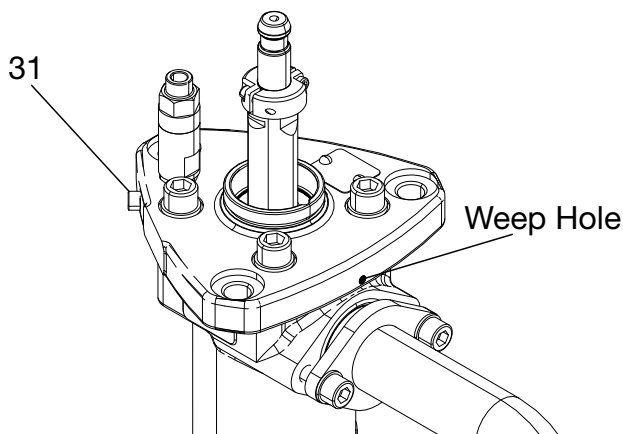

FIG. 1.
The weep hole in the pump mount plate (15) functions as a drain for TSL that may have been applied to the back up seal, and in case the back up seal is missing or damaged. The pipe plug (31) is used for some options See figure 1.